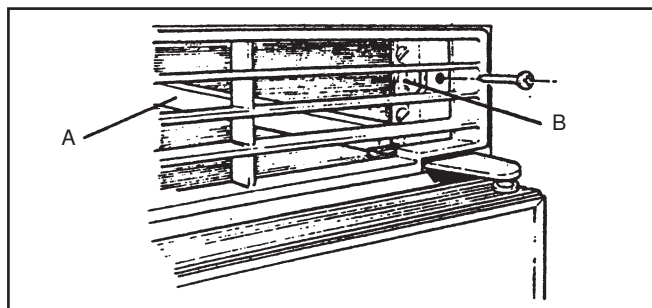

Fig. 4
A ventilator for fitting above the door as shown in fig. 4 is supplied with the refrigerator. The connection pipe, gas cock, and connectors are not supplied as the sizes of these may vary to suit particular installations. The appropriate parts should, however, be readily available from the refrigerator supplier or an Agent dealing in gas fittings (see note in item 11).
Alternatively, wooden battens may be screwed to the sides of the recess, from front to back, bearing down on the top of the cabinet to hold it firmly, as shown at A, fig. 4. Whichever method is used, it must be possible to remove the refrigerator easily for subsequent servicing purposes. The brackets or battens must be in a position where they will not restrict the air circulation over the cooling unit; they must not be positioned across the cabinet over the fins of the condenser of the cooling unit at the rear, otherwise air-flow will be impaired and performance affected.
To fit the upper ventilator, screw a block of wood approx. 25 mm (1") square x 66 mm (2 5/8") long, to each side of the recess, 16 mm (5/8") back from the front edge, as shown at B, fig. 4. Secure the ventilator to the blocks with a screw through the hole provided at each end.